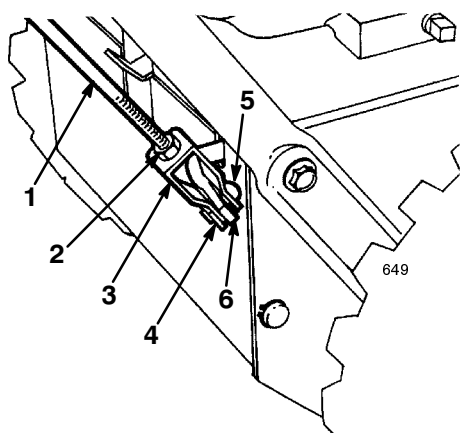

Figure 8
1. Loosen the jam nut above the clevis on the upper control rod (Fig. 8).
2. Align the holes in the clevis and the lower control rod and insert the clevis pin (Fig. 8).
- Thread the clevis up or down to increase or decrease the distance between the handgrip and the auger/impeller drive control lever (Fig. 8).
6. When the adjustment is correct, install the clevis pin and secure it in place with the cotter pin (Fig. 8).
7. Tighten the jam nut to secure the clevis (Fig. 8).